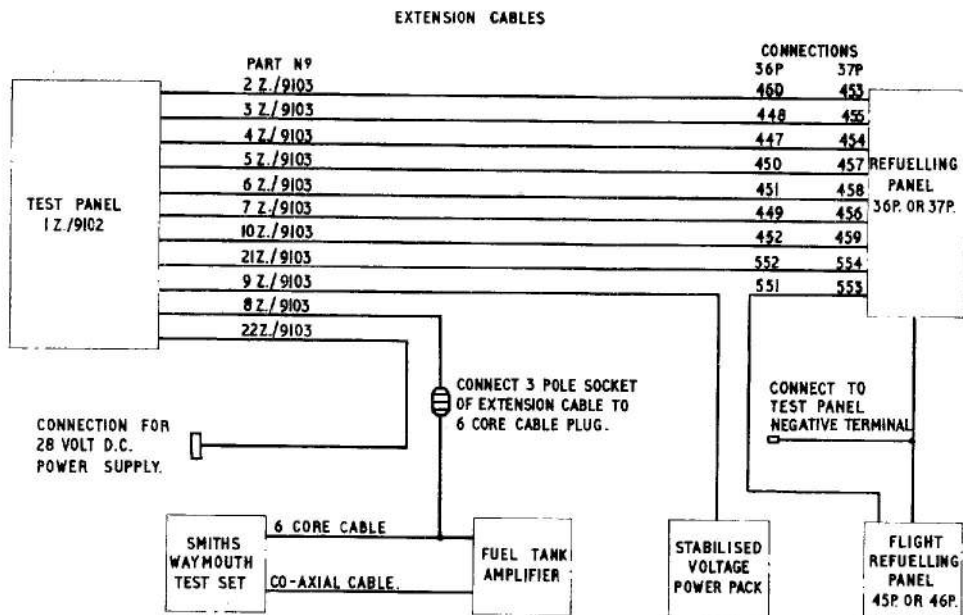

Fig. 3. Arrangement of test circuit
16. The block diagram (fig. 3) shows the arrangement of the test circuit for testing both the refuelling and flight refuelling panels. The 28 volt d.c. supply is taken via the supply extension cable to the test panel fuse block, from which it is fed to the